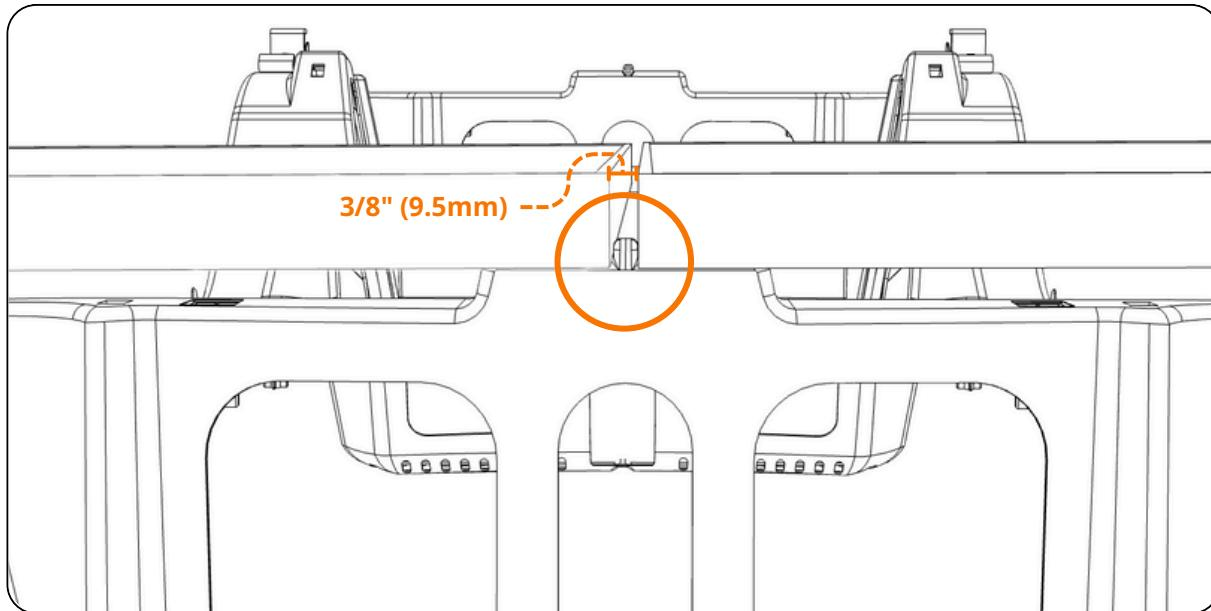

Fig. 11 Center Spacer
4. Torque the connection nut to **20-25 ft-lbs (\approx 27-33 N·m)**. The mechanical anchor is installed between two adjoining FR510-6 units. See Fig.11 below.